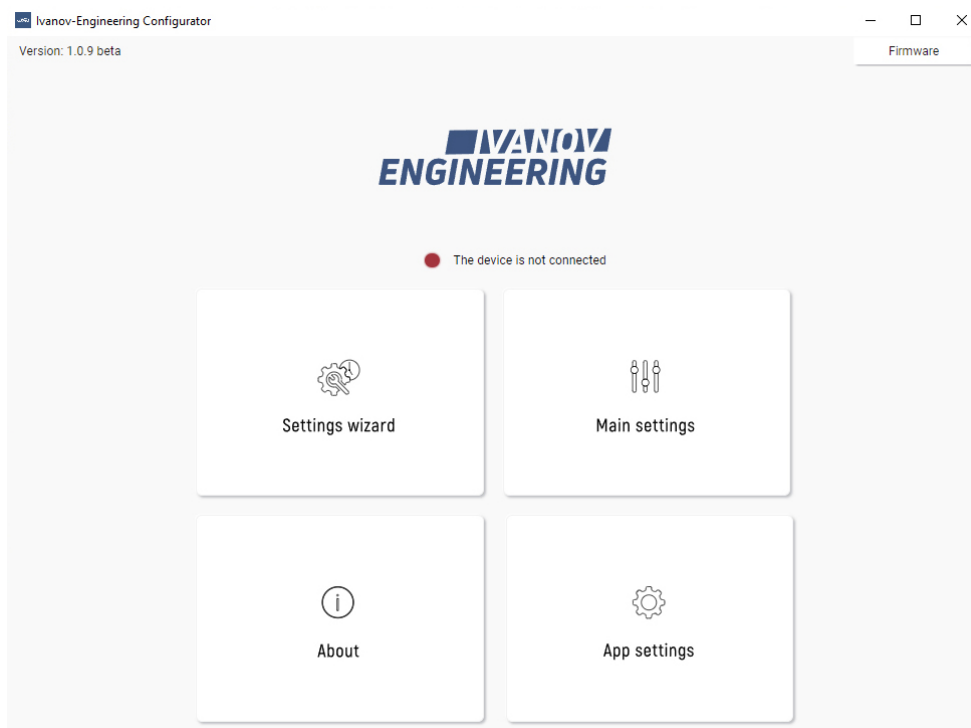

Fig. 8a – Main program window when the device is not connected
- **red** – the device is not connected (see Fig. 8a),